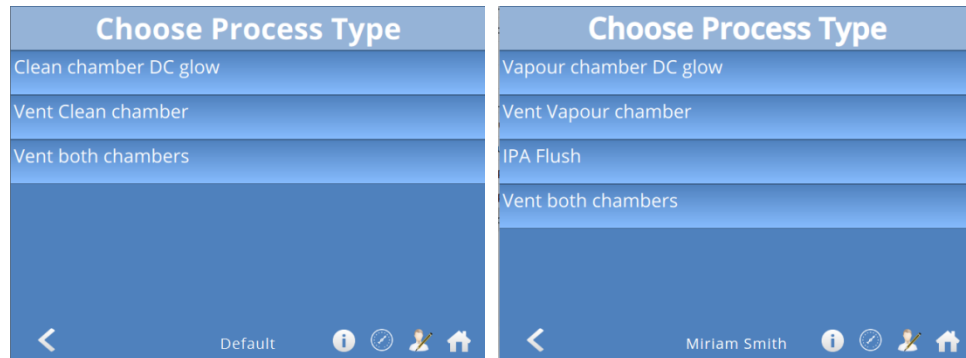

Figure 4-1. Creating a new Clean recipe (left) or Vapour recipe (right)
2. Tap on . The *Choose Process Type* screen is displayed (see Figure 4-1).